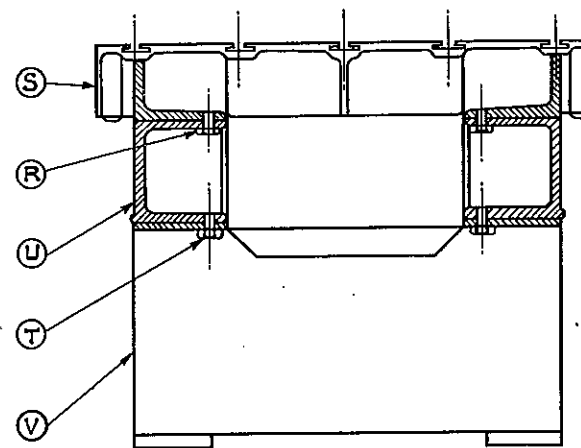

FIG. 15 SECTION THROUGH FIXED TABLE WITH PACKING STRIPS.
1. Unscrew the four hexagon head screws 'R', Fig. 15.